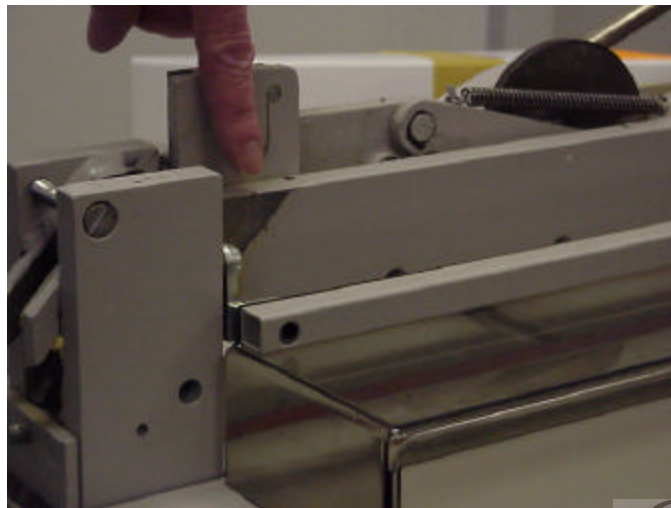

Fig 2
2. To check the knife carrier for a rocking motion you **MUST REMOVE THE KNIFE** and rock the top and bottom of the carrier. If you feel a slight rocking motion/slop, tighten the tower adjustment screw one or two threads at a time until movement stops (shown in Fig.1). In some cases this movement is caused by worn or non-lubricated towers. If this is noticed, lubricate the carrier shown in Fig 2 on the left and right sides. In the case where the towers are worn, the machine is considered irreparable.